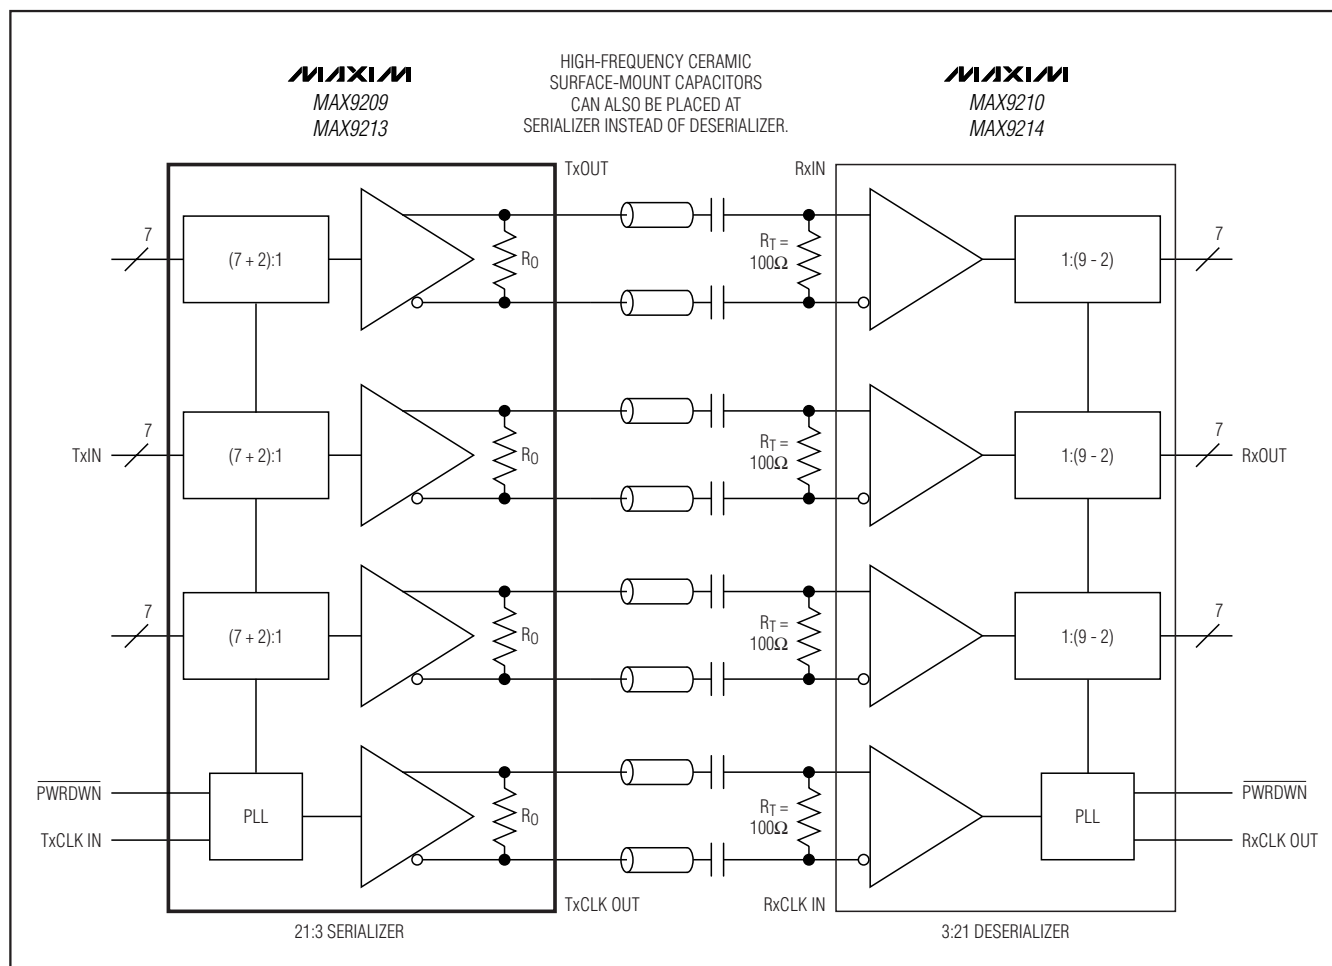
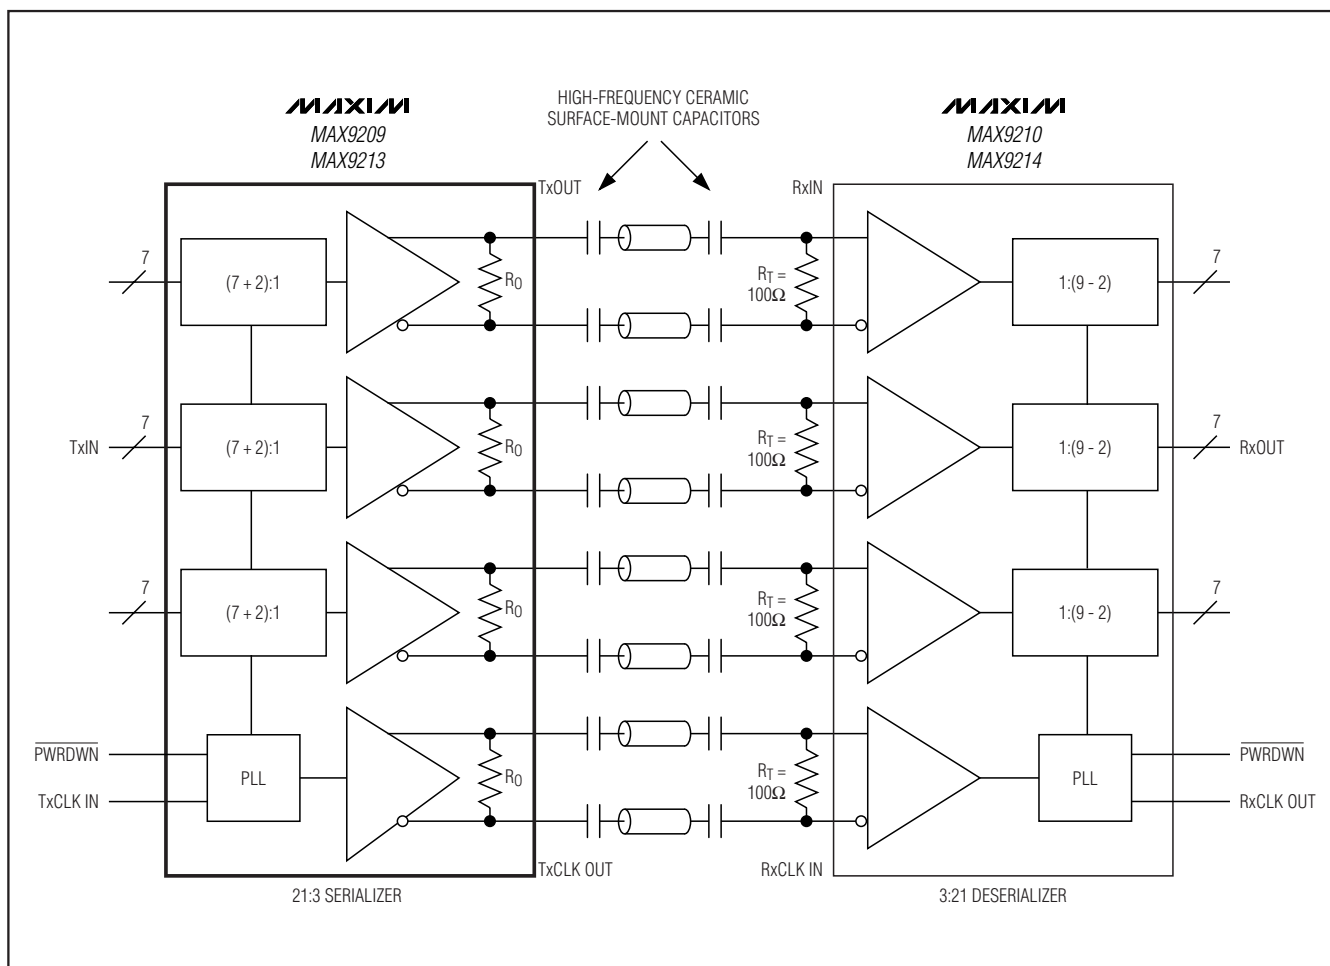

Figure 14. Two Capacitors per Link, AC-Coupled, DC-Balanced Mode
Figure 15. Four Capacitors per Link, AC-Coupled, DC-Balanced Mode
The RC network for an AC-coupled link consists of the LVDS receiver termination resistor (R_T), the LVDS driver output resistor (R_O), and the series AC-coupling capacitors (C). The RC time constant for two equal-value series capacitors is $(C \times (R_T + R_O)) / 2$ (Figure 14). The RC time constant for four equal-value series capacitors is $(C \times (R_T + R_O)) / 4$ (Figure 15).
Equation 1 is for two series capacitors (Figure 14). The bit time (t_B) is the period of the parallel clock divided by 9. The DSV is 10. See equation 3 for four series capacitors (Figure 15).
Equation 1 altered for four series capacitors (Figure 15) is: